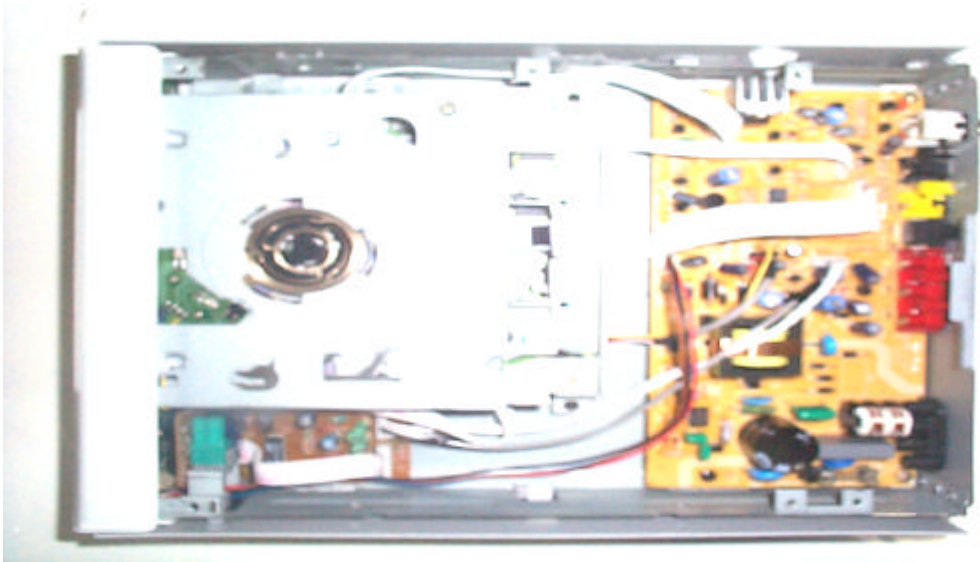

Figure 4
Step4: Remove the metal plate, the Loader and other modules will be visible. (Figure 4)